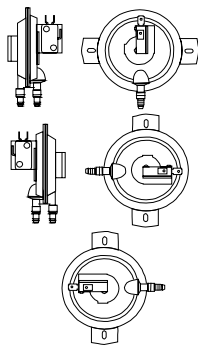

Fig. 2
Air Sampling Connection (Figure 2, Page 2)
Refer to Figure 2 to identify the **High inlet (H)** and the **Low inlet (L)**. Connect the sample lines to the same port or ports as the switch being replaced.